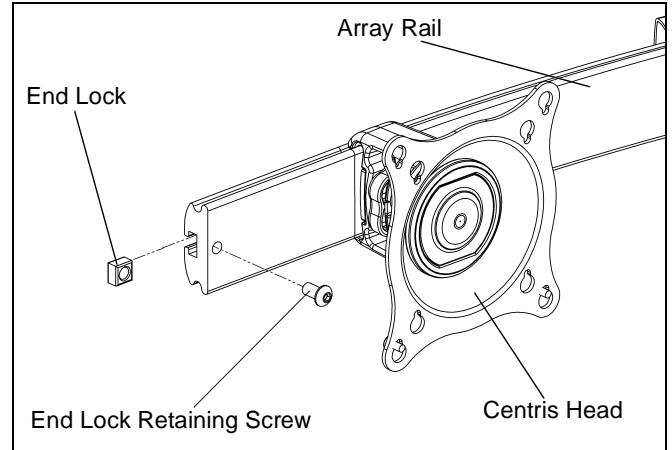

Figure 14
8. Reinstall end locks into mounting rail using the 5/32" hex key (J) (See Figure 14).